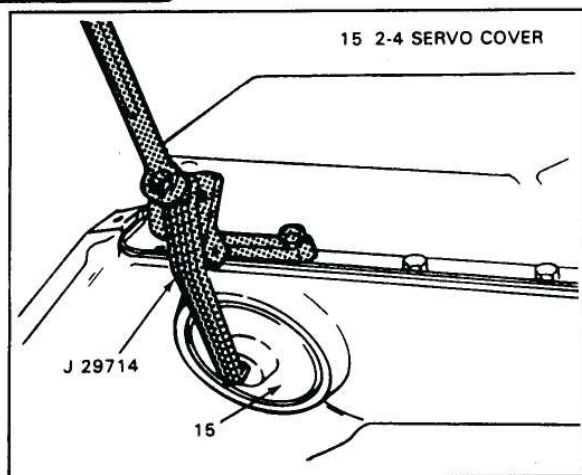

Figure 205
5. Compress the servo cover using J-29714 tool, as shown in Figure 205.
7. Remove the servo tool and retorque the pan bolt (See Figure 205).